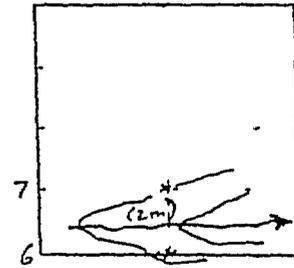

Figure 6 How to record intermediate survey information when crossing a stream or gully
- 2) The note keeper will take the slope reading and the slope measurement to the head chainman at the stream and record this information as an "intermediate measurement". This "intermediate measurement" should be recorded in brackets opposite the station from which it originates (see sample notes in Figure 6). The note keeper will accurately indicate the stream position on the sketch map and show the direction of flow with an arrow